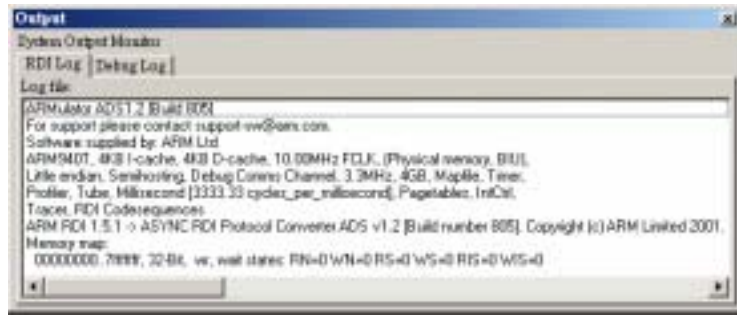

Figure 25. ARMulator startup Message.
3. After the step 2, check the message shown in ARMulator startup banner: **System Output Monitor - RDI Log**. An example result is displayed in Figure 25.
7. When the program is terminated, open **Command Line Interface Window** and enter print \$statistics. An example result is displayed in Figure 25.